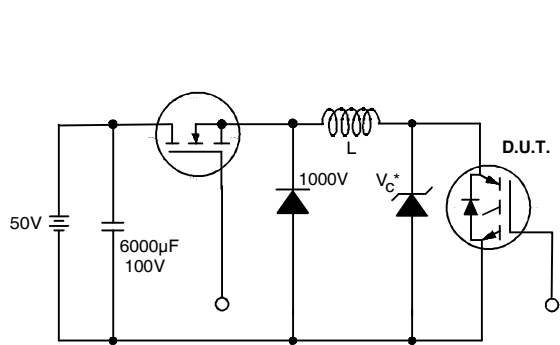

Figure 19. Clamped Inductive Load Test Circuit
- ② $V_{CC}=80\%(V_{CES})$, $V_{GE}=20V$, $L=10\mu H$, $R_G=23\Omega$ (figure 19)
- ③ Pulse width $\leq 80\mu s$; duty factor $\leq 0.1\%$.
- ④ Pulse width $5.0\mu s$, single shot.
- ⑤ When mounted on 1" square PCB (FR-4 or G-10 Material).